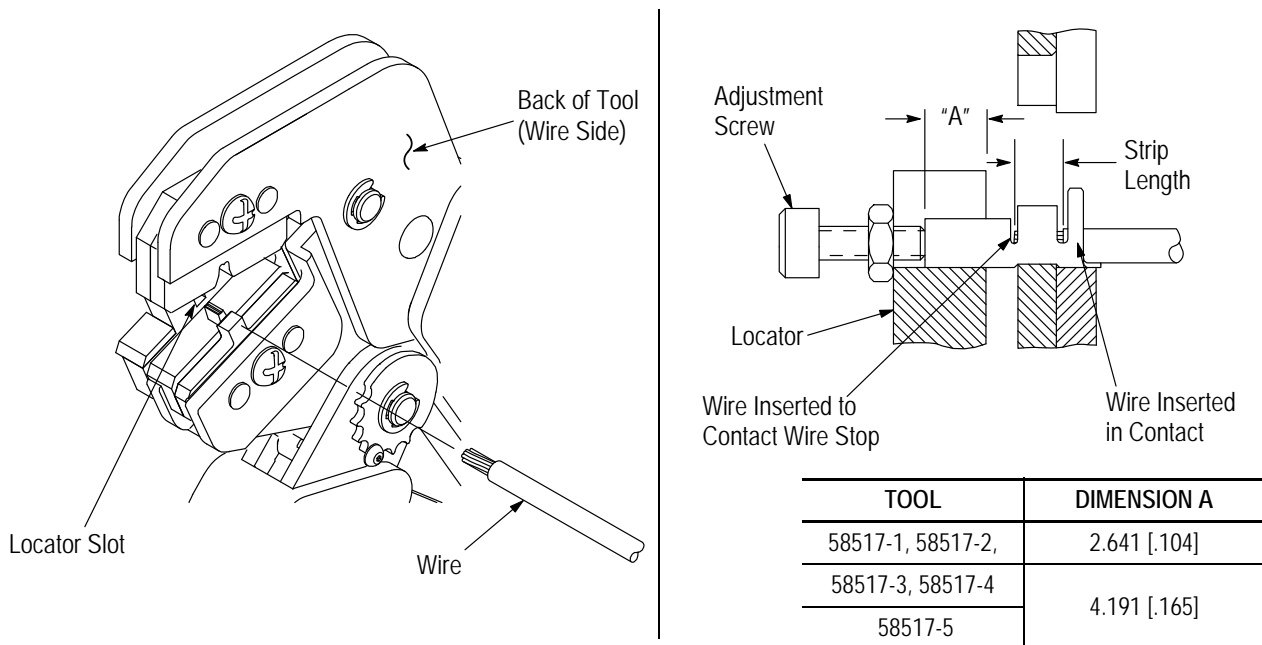

Figure 3
Refer to the table in Figure 1 and select wire of the specified size and insulation diameter. Strip the wire to the length indicated in Figure 1, taking care not to nick or cut wire strands. Select an applicable contact and identify the appropriate die assembly according to the wire size markings on the die. Refer to Figure 3 and proceed as follows:
4. Insert stripped wire into contact insulation and wire barrels until it is butted against the wire stop on the contact, as shown in Figure 3.
**5. CONTACT SUPPORT ADJUSTMENT (Figure 3)**